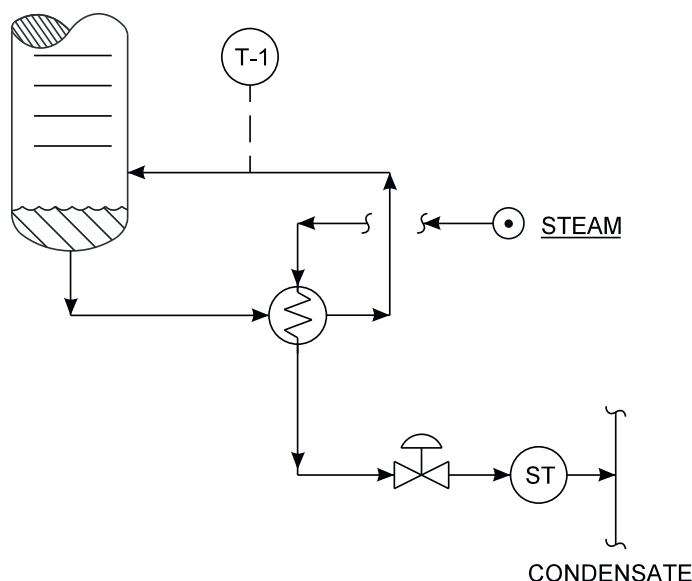

Fig. 2-7. Steam traps can either blow-thru or back-up. Either will reduce reboiler duty.
- **Solution**—To discriminate between these common problems, I slowly began to close on the steam condensate outlet flow. Simultaneously, using my infrared temperature gun, I monitored the reboiler process outlet temperature (T-1) (Fig. 2-7). If the problem was condensate backup, this would lower the process outlet temperature.